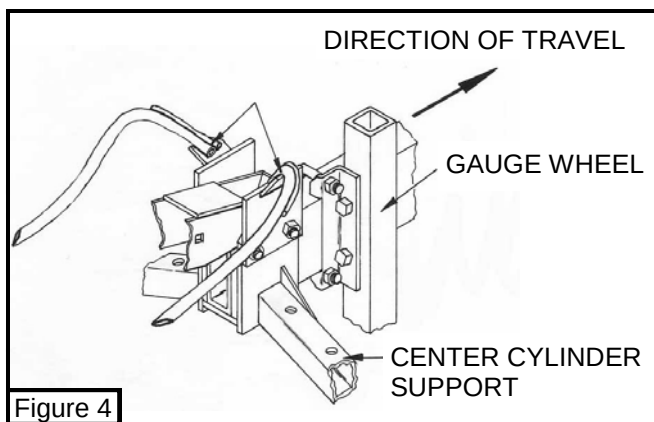

Figure 4
Place 1/2" X 5 1/2" Capscrew thru Lt. Center #1 Rod. Then run bolt thru center drum frame and over 2 x 5 tube. Place Rt. Center #1 Rod on nut side of capscrew. (See Figure 4.) Attach with 1/2 flange hex nuts. Position center drum, Lt. and Rt. Center #1 Rods correctly. Tighten 1/2 x 5 1/2 capscrews securing center drum and Center #1 Rods. Then place chain (A) around the top sprocket (B) and the center inverter drive (C). If sprockets are out of line, loosen the top sprocket (B) and align sprockets and retighten. After sprockets are aligned push the idler sprocket (D) against the chain (A) to take up the slack in the chain and tighten the idler sprocket (D). (Refer to Figure 5).